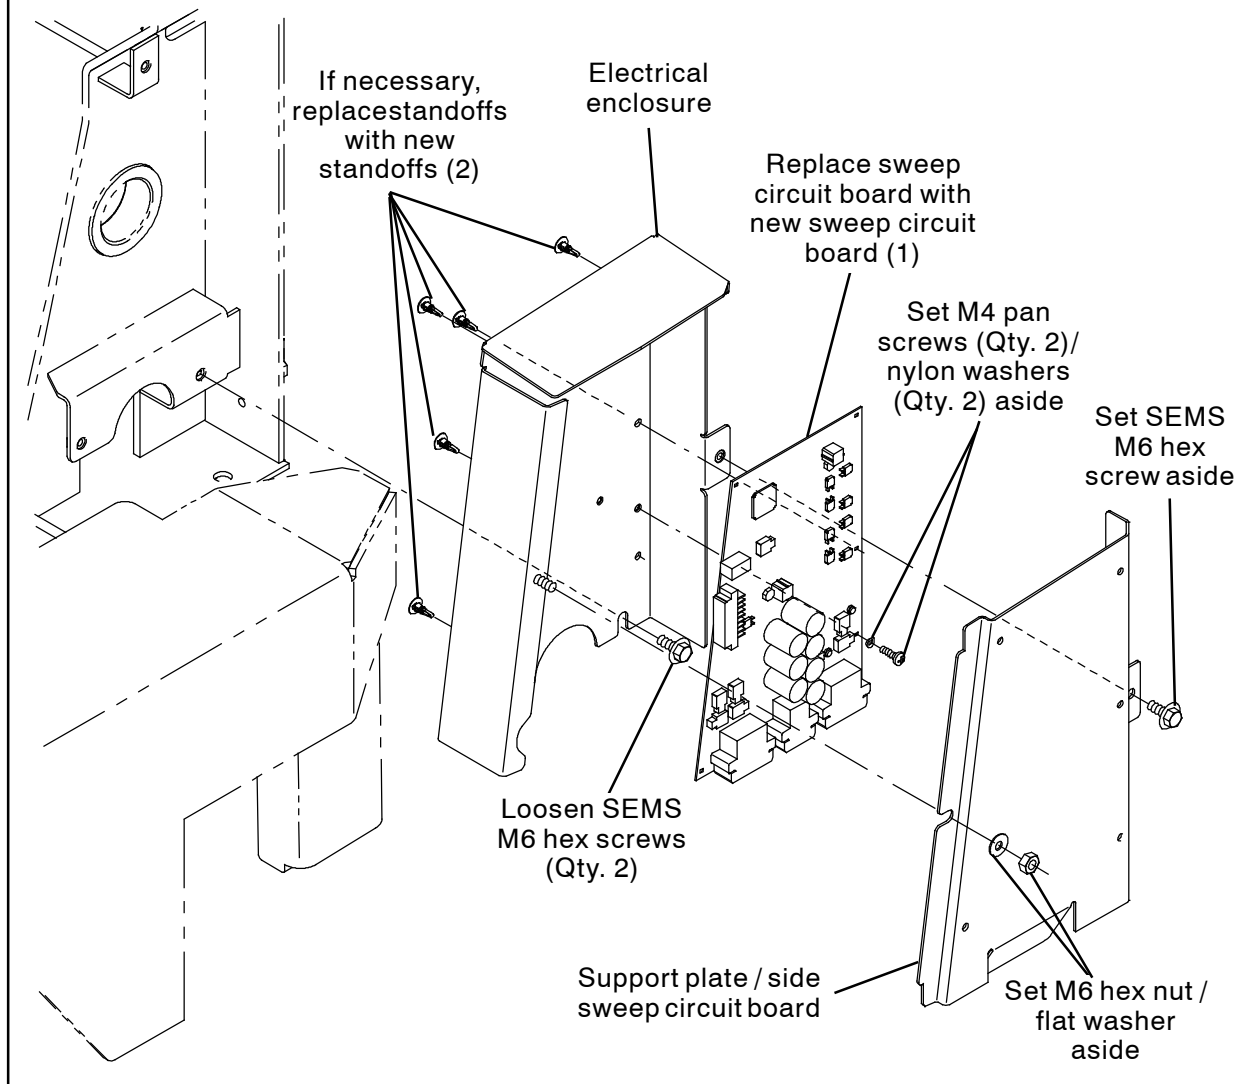

FIG. 2
2. Remove the SEMS M6 hex screw, M6 hex nut, and flat washer securing the support plate / side sweep circuit board to the electrical enclosure. Set removed hardware aside. (Fig. 2)
3. Carefully remove the support plate / side sweep circuit board from the electrical enclosure and place support plate / side sweep circuit board out of the way. **Do Not** break electrical connections when removing the support plate / side sweep circuit board from the electrical enclosure. (Fig. 2)
4. Disconnect all harness connections from the sweep circuit board. (Fig. 2)
5. Remove both M4 pan screws and nylon washers securing the sweep circuit board to the electrical enclosure. Set removed hardware aside. (Fig. 2)
6. Remove the sweep circuit board from the electrical enclosure. Discard the sweep circuit board. (Fig. 2)
7. If necessary, replace the broken standoffs in the electrical enclosure with new standoffs (2). Loosen both SEMS M6 hex screws securing the electrical enclosure to the machine to access the standoffs. (Fig. 2)
8. If the electrical enclosure was loosened to replace standoffs, reposition the electrical enclosure onto the SEMS M6 hex screws and tighten the SEMS M6 hex screws to secure the electrical enclosure to the machine. (Fig. 2)
9. Connect the main wire harness connectors to the sweep circuit board (1)
10. Place the sweep circuit board (1) onto the plastic standoffs (2) and use the two M4 pan screws and nylon washers to secure the sweep circuit board to the electrical enclosure. To prevent damaging the sweep circuit board, **Do Not** over tighten the M4 pan screws. (Fig. 2)
11. Reinstall the support plate / side sweep circuit board onto the electrical enclosure. (Fig. 2)